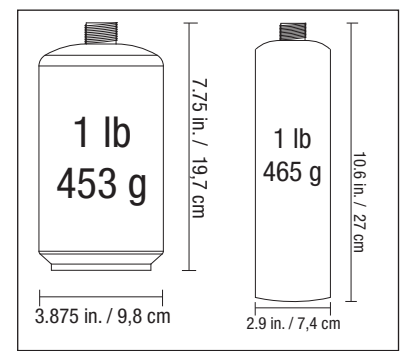

Figure 2
1. Make sure the regulator/control knob is in the “OFF” position (Figure 2).
1. Turn the regulator/control knob to the “OFF” position (Figure 2).
2. Make sure regulator/control knob is in the “OFF” position (Figure 2).
1. Turn regulator/control knob to the “OFF” position (Figure 2).